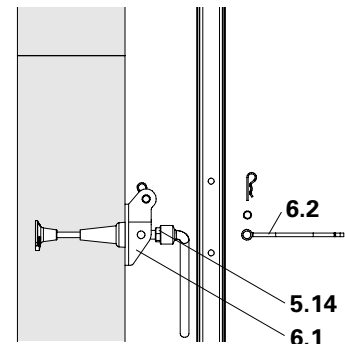

Fig. B1.34
4. Fix Bracing Shoe Wall CB M24 (6.1) to the cone using Bolt M24 x 70 (5.14) SW 36, after the bolts have been removed from the tension plate (6.2). Re-insert tension plate through the platform post and re-bolt in the bracing shoe. (Fig. B1.34)